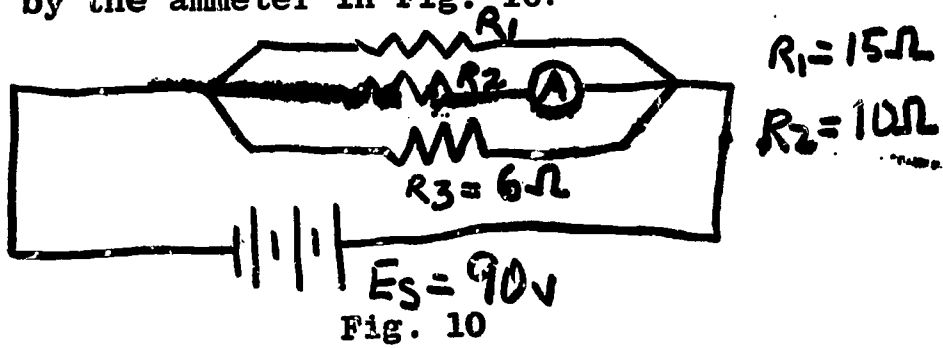

Fig. 10
*What is I as measured by the ammeter in Fig. 10?